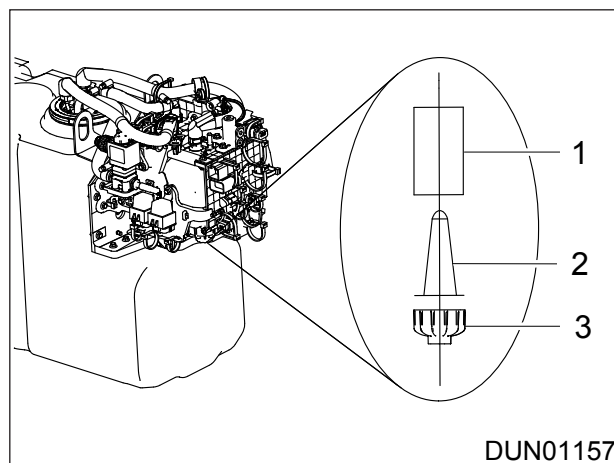
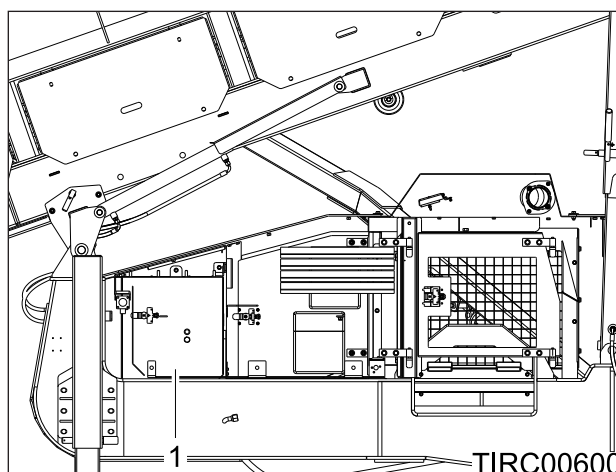

Figure 9.37 - Pump Main Filter Parts
Figure 9.38 - Engine Inspection Door
1. Turn off the engine. Open the engine inspection doors (Item 1, Ref: Figure 9.38).
2. Unscrew the drain bung (Item 1, Ref; Figure 9.38) at the bottom of the water trap (item 4, Ref; Figure 9.37) and allow the water to drain out into a suitable container.
2. Unscrew the fuel filter (Item 1, Ref; Figure 9.37)